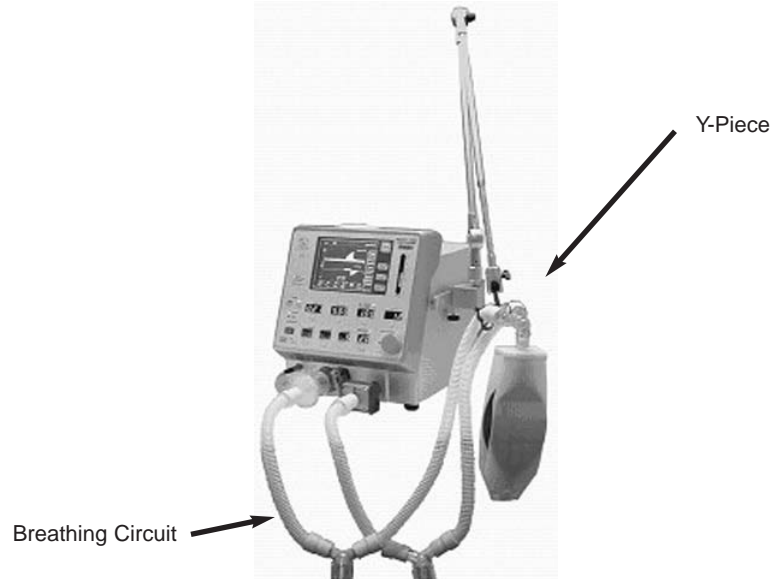

Figure 6-1 Test Setup
- 2 Connect a patient circuit to the e360 ventilator as shown in Figure 6-1. (Test lung is not needed)
- 3 Connect the patient circuit to the e360 ventilator as shown in Figure 6-1.